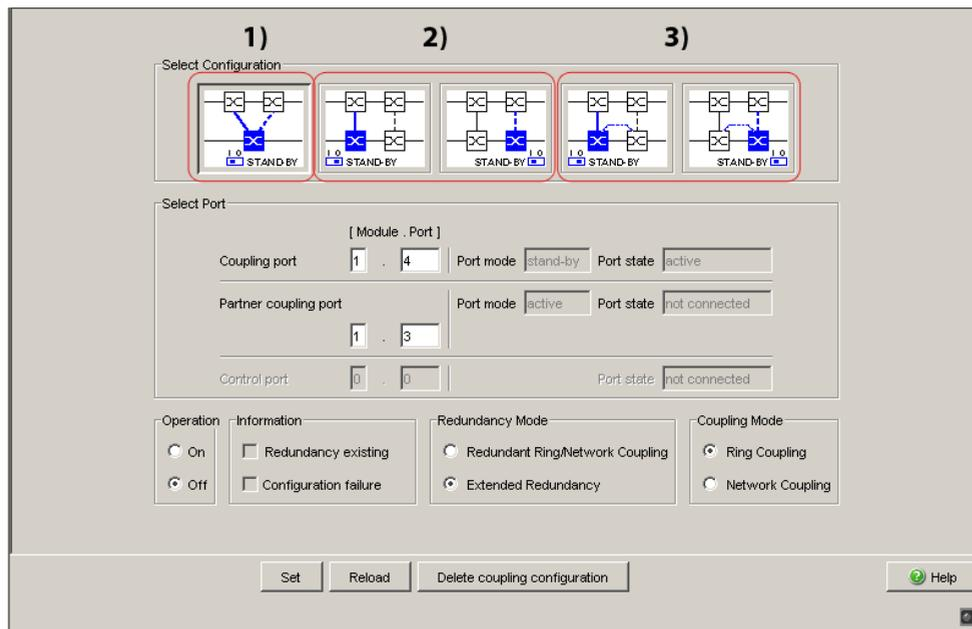

Figure 19: Choosing the ring coupling configuration (when the DIP switch is off, or for devices without a DIP switch)
- You first select the configuration you want: One-Switch coupling (“1”), two-Switch coupling (“2”) or two-Switch coupling with control line (“3”), (see fig. 19).